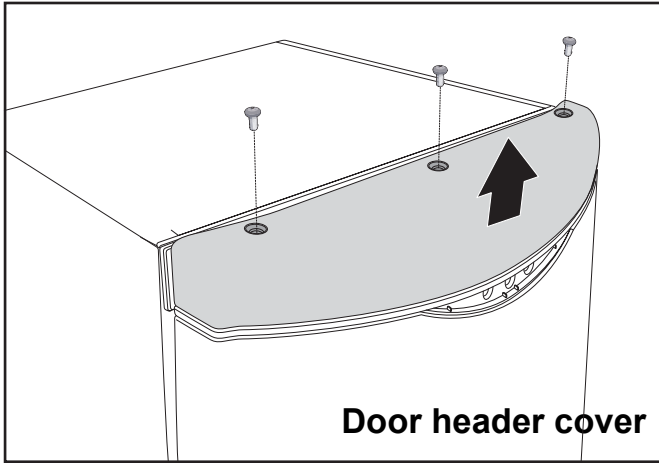

Fig.1
2. Working from the top of the appliance, remove the screws from the door header cover. Remove the cover *Fig. 1*